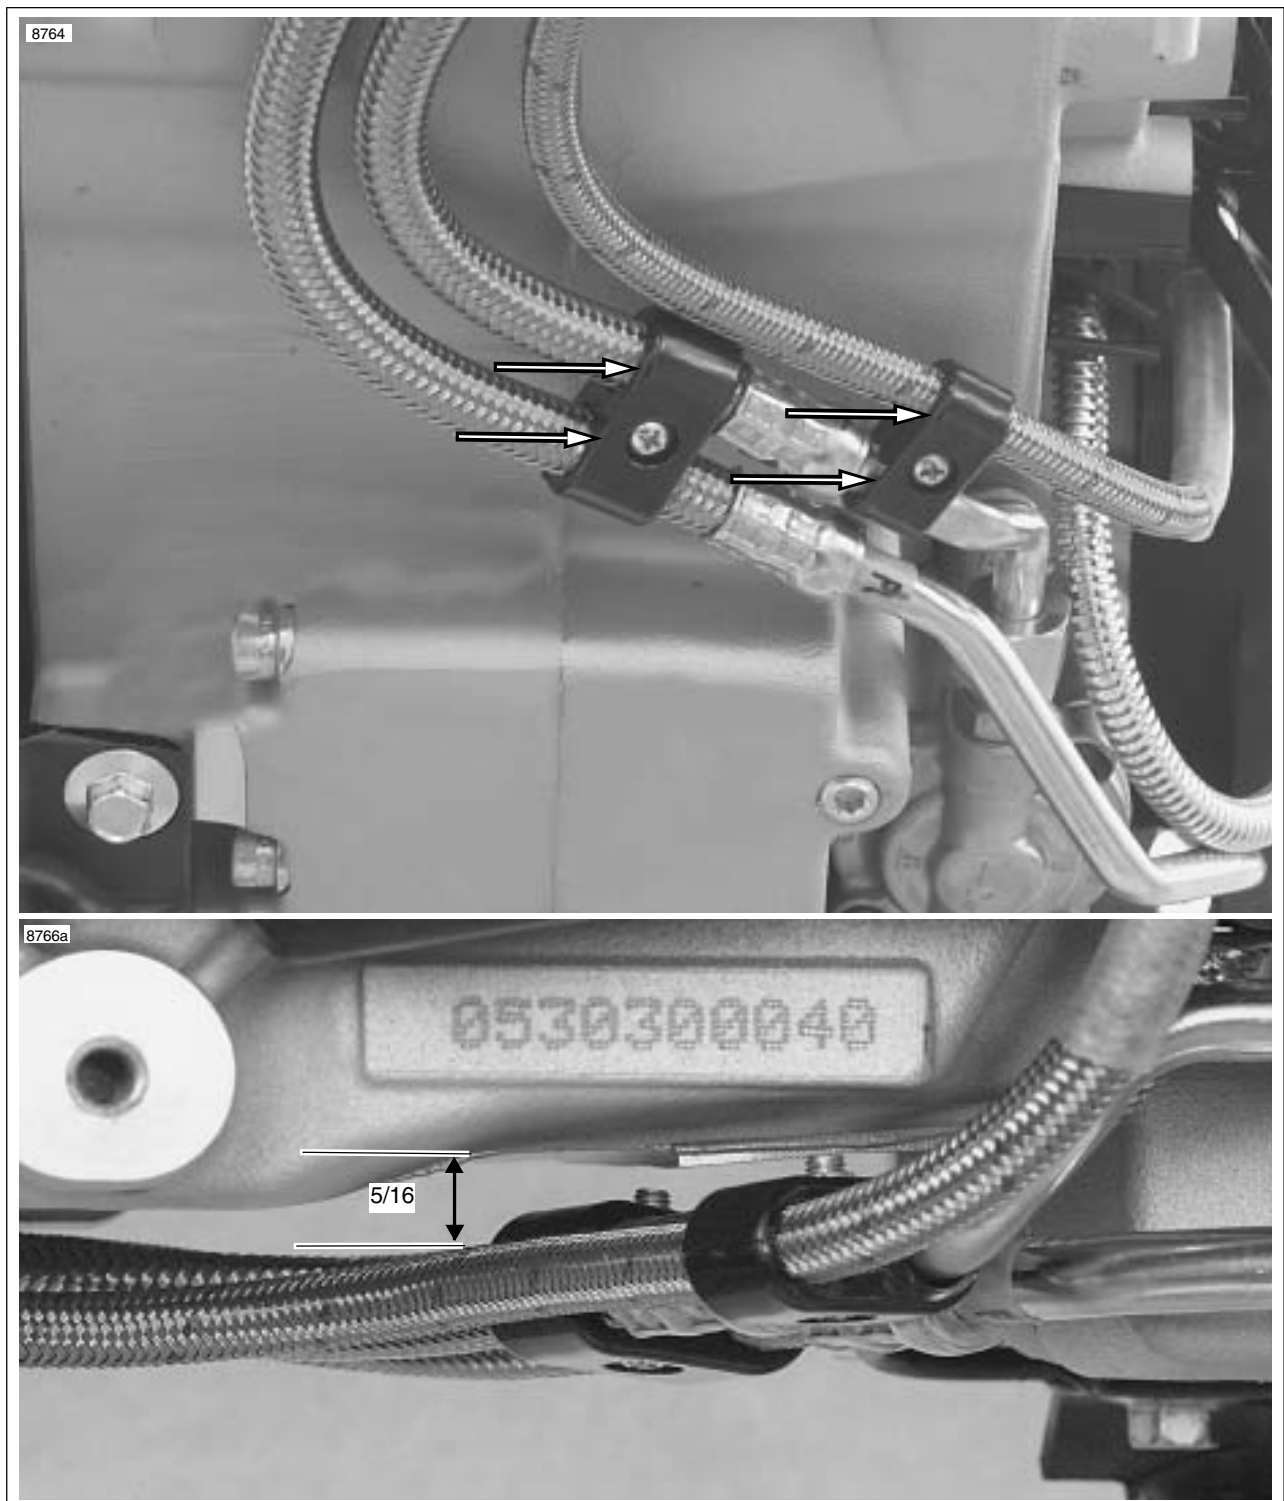

Figure 3-50. Clamp Orientation and Oil Line Spacing
27. See Figure 3-50. Verify that both black plastic oil line clamps are parallel to the crankcases and there is a clearance of 5/16 in. (7.9375 mm) between the bottom of the crankcases and the oil lines.